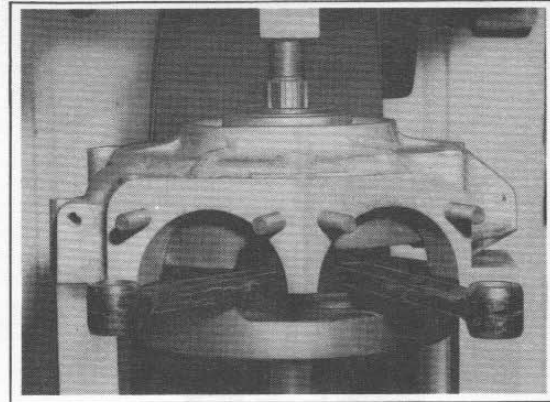

Figure 3-33. Pressing Flywheels Out of Crankcase.
6. Mount flywheel and left case assembly on press table supporting case on parallel bars (figure 3-33) and press on end of sprocket shaft with arbor press until flywheel assembly (8) drops out. Remove seal (7), freeing sprocket side bearing half (9), spacer (6) and spacer (10).